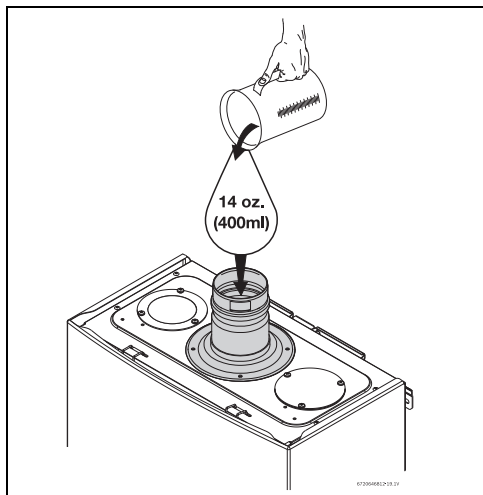

Fig. 38 Filling the condensate trap at start up
- Fill the condensate trap by pouring approx. 14 oz. (400ml) of water into the exhaust accessory on the top of the appliance, see fig. 38.